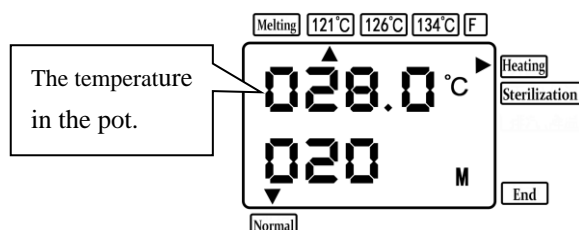

Fig. 16
(1) Close the upper lid and pull the door switch handle to the lock position fully. Then press the "Start" key to initiate the sterilization cycle and the heating. The control panel will display the temperature and sterilization time in the sterilization chamber (**Fig.16**), and the status is "Heating".